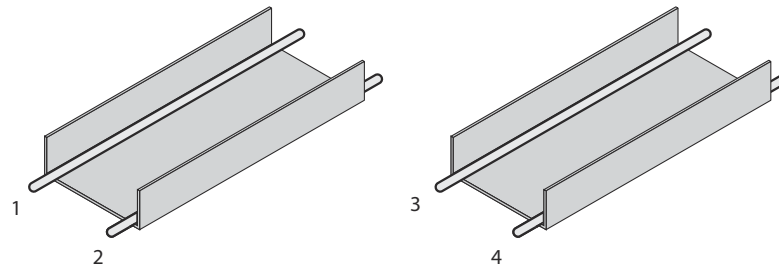
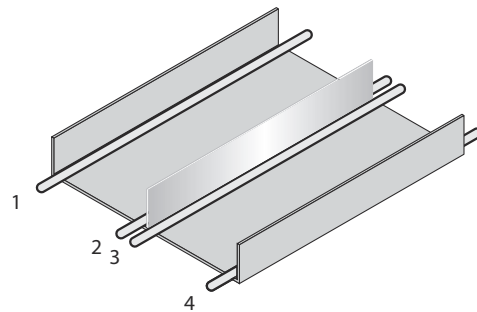

Figure 8: Ideal laying – Place cables in different cable channels
Figure 9: Alternative laying – Separate cables with metallic separators
- ▶ Route the cables in groups 1, 2 and 3, 4 in different cable channels or use metallic separators (see figure 8 and see figure 9). This applies particularly if cables of devices with a high level of radiated emission, such as frequency converters, are laid parallel to device cables.